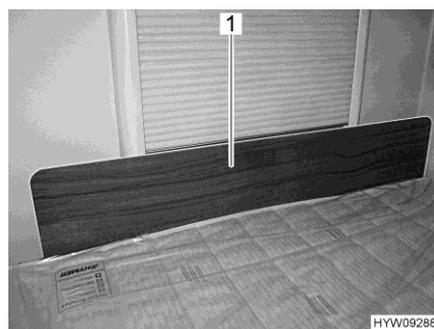

Fig. 102 Protective panel / fall out protection
- Plug in the protective panel (Fig. 102,1) in front of the window, between mattress and window frame. The clamping effect of the mattress holds the protective panel in its position in front of the window frame.